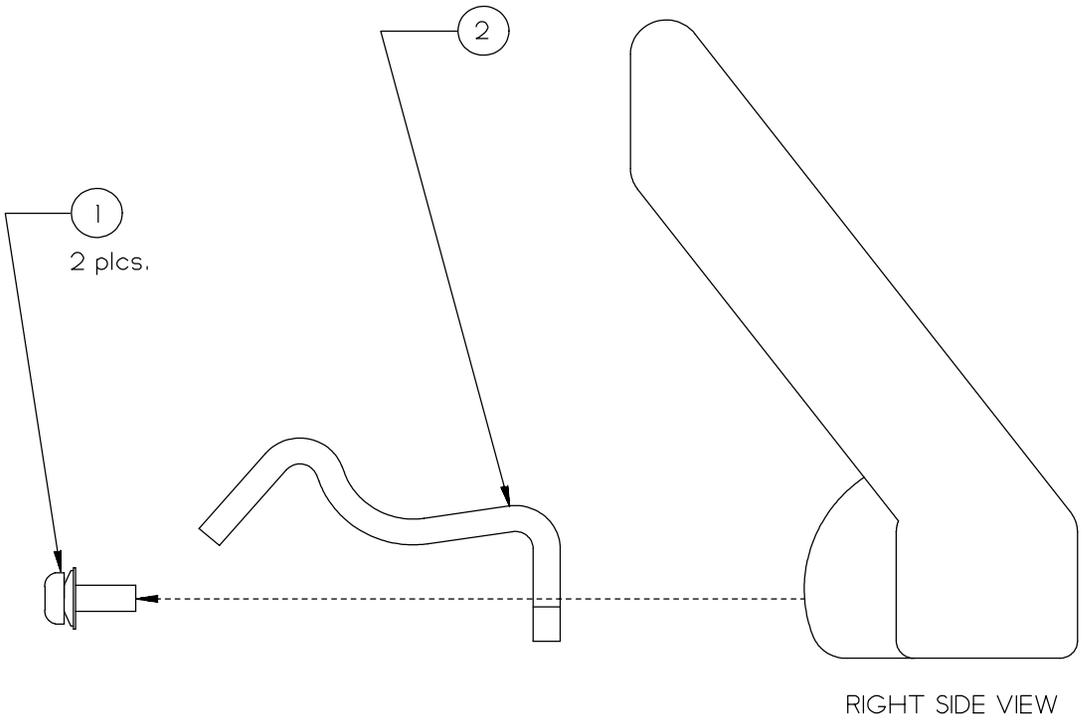

Figure 18
Note: The Spring Clip can be removed from the Monitor Retention Bracket without the Retention Bracket being removed from the Workstation. Figure 18 shows the Retention Bracket removed from the Workstation.
1. Remove the 2 torx screws that attach the Spring Clip to the Monitor Retention Bracket. See Figure 18.
2. Remove the Spring Clip from the Retention Bracket. See Figure 18.